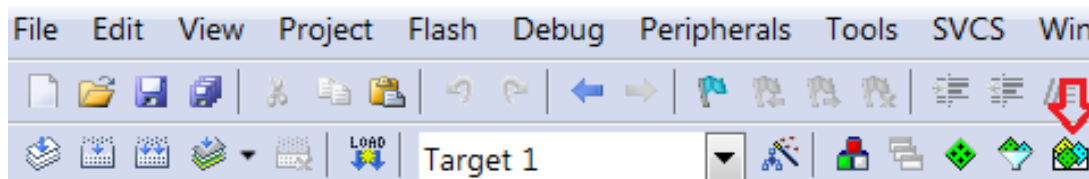

Figure 21. Pack Installer Icon
2. Open the Keil µVision IDE and navigate to **Project > Manage > Pack Installer** or click on the icon shown in the figure "Pack Installer Icon" (Figure 21).